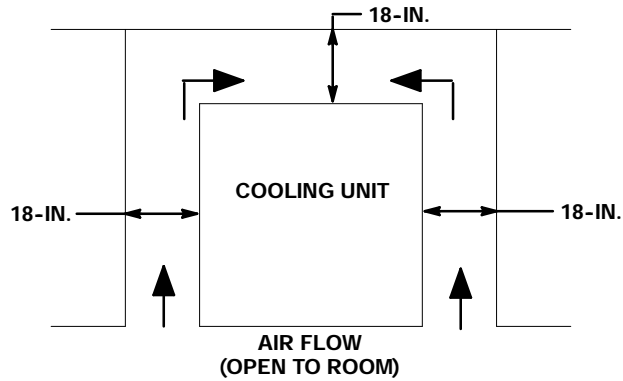

FIGURE 4. COOLING UNIT SPACE REQUIRED
fused as indicated on the Unit nameplate. The power circuit may also be wired through an equivalent HACR type circuit breaker rather than the disconnect switch. THE POWER CIRCUIT MUST BE MADE UP OF COPPER CONDUCTORS AND ALL WIRING MUST CONFORM TO NATIONAL AND LOCAL ELECTRICAL CODES; (4) Close to a plain water source supply line with proper requirements; (5) Sufficient space around Cooling Unit (see Figure4) for proper air circulation (18-inches on sides and back, front side open to room, and top open to ceiling); (6) Be close to permanent floor drain to route Cooling Unit water tank drain and overflow hoses to the floor drain.
1. Very carefully, move Cooling Unit back into operating position leaving space around Unit (see Figure 4) as specified in *SELECTING LOCATION*. MAKE SURE THERE ARE NO KINKS IN COOLING UNIT INLET LINES, AND (IF APPLICABLE) REMOTE CONDENSER AND FAN ASSEMBLY REFRIGERATION LINES.